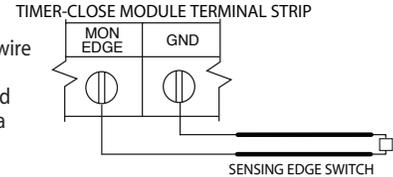

Figure 10B
- 6B) **Monitored** sensing edge connects to main circuit board ODC STB terminals using the optional OPAKMEIGX.S as shown in **Fig. 10B**.